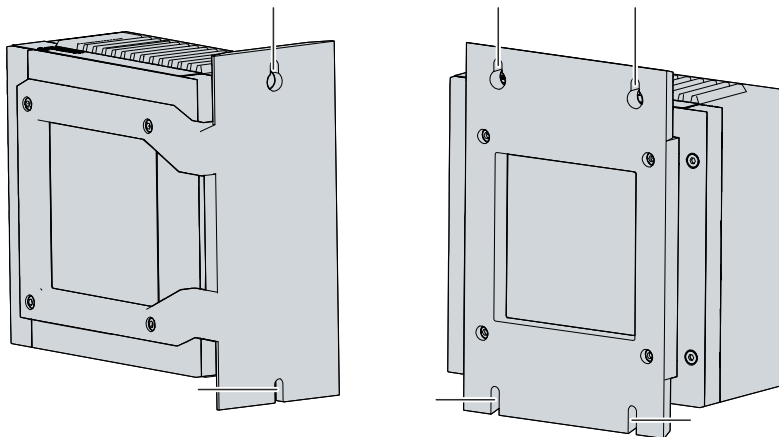

Fig. 13: Mounting plates for control cabinet installation
2. Hang the PC on the screws at the marked points of the mounting plate (see Fig. 13).